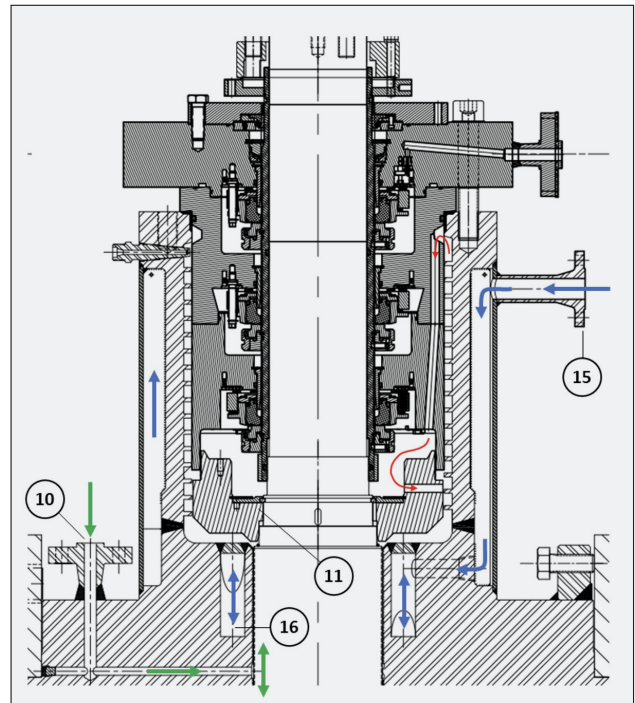

Figure 4: Gland Injection, Cooling Water and Recirculation Flows
Figure 4 illustrates the gland injection and cooling water flow paths as well as the recirculation flow within the seal housing and seal cartridge.
The gland injection flow is shown in green in Figure 4. The fluid is cooled reactor coolant provided from the Chemical & Volume Control System Pump (PWR's) or the Primary Pressuring Pump (PHWR's). The gland injection flow is in the order of 25-35 l/m (7-9 usgpm) with about 70-80% flowing downwards into the pump casing.
The pump is provided with a water cooling jacket around the outside of the seal housing. Cooling passages are also machined into the casing cover in a close annular pattern around the shaft just below the seal housing. The cooling water flow path is shown in blue in Figure 4.
Heat transfer between the seal housing and the seal cartridge is promoted by a recirculation flow established by the recirculation impeller (11). This flow is shown in red in Figure 4. A circuitous flow path is created between the seal